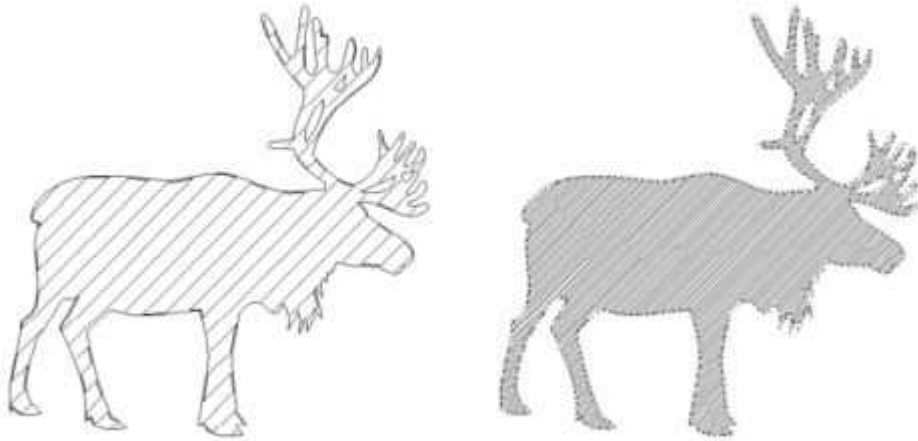

Figure 3
- 4 Now Left Click On the area of your selected item, you wish to shade. The results are shown in, Figure 3 Left using the midway setting and in, Figure 3 Right using a fine setting.